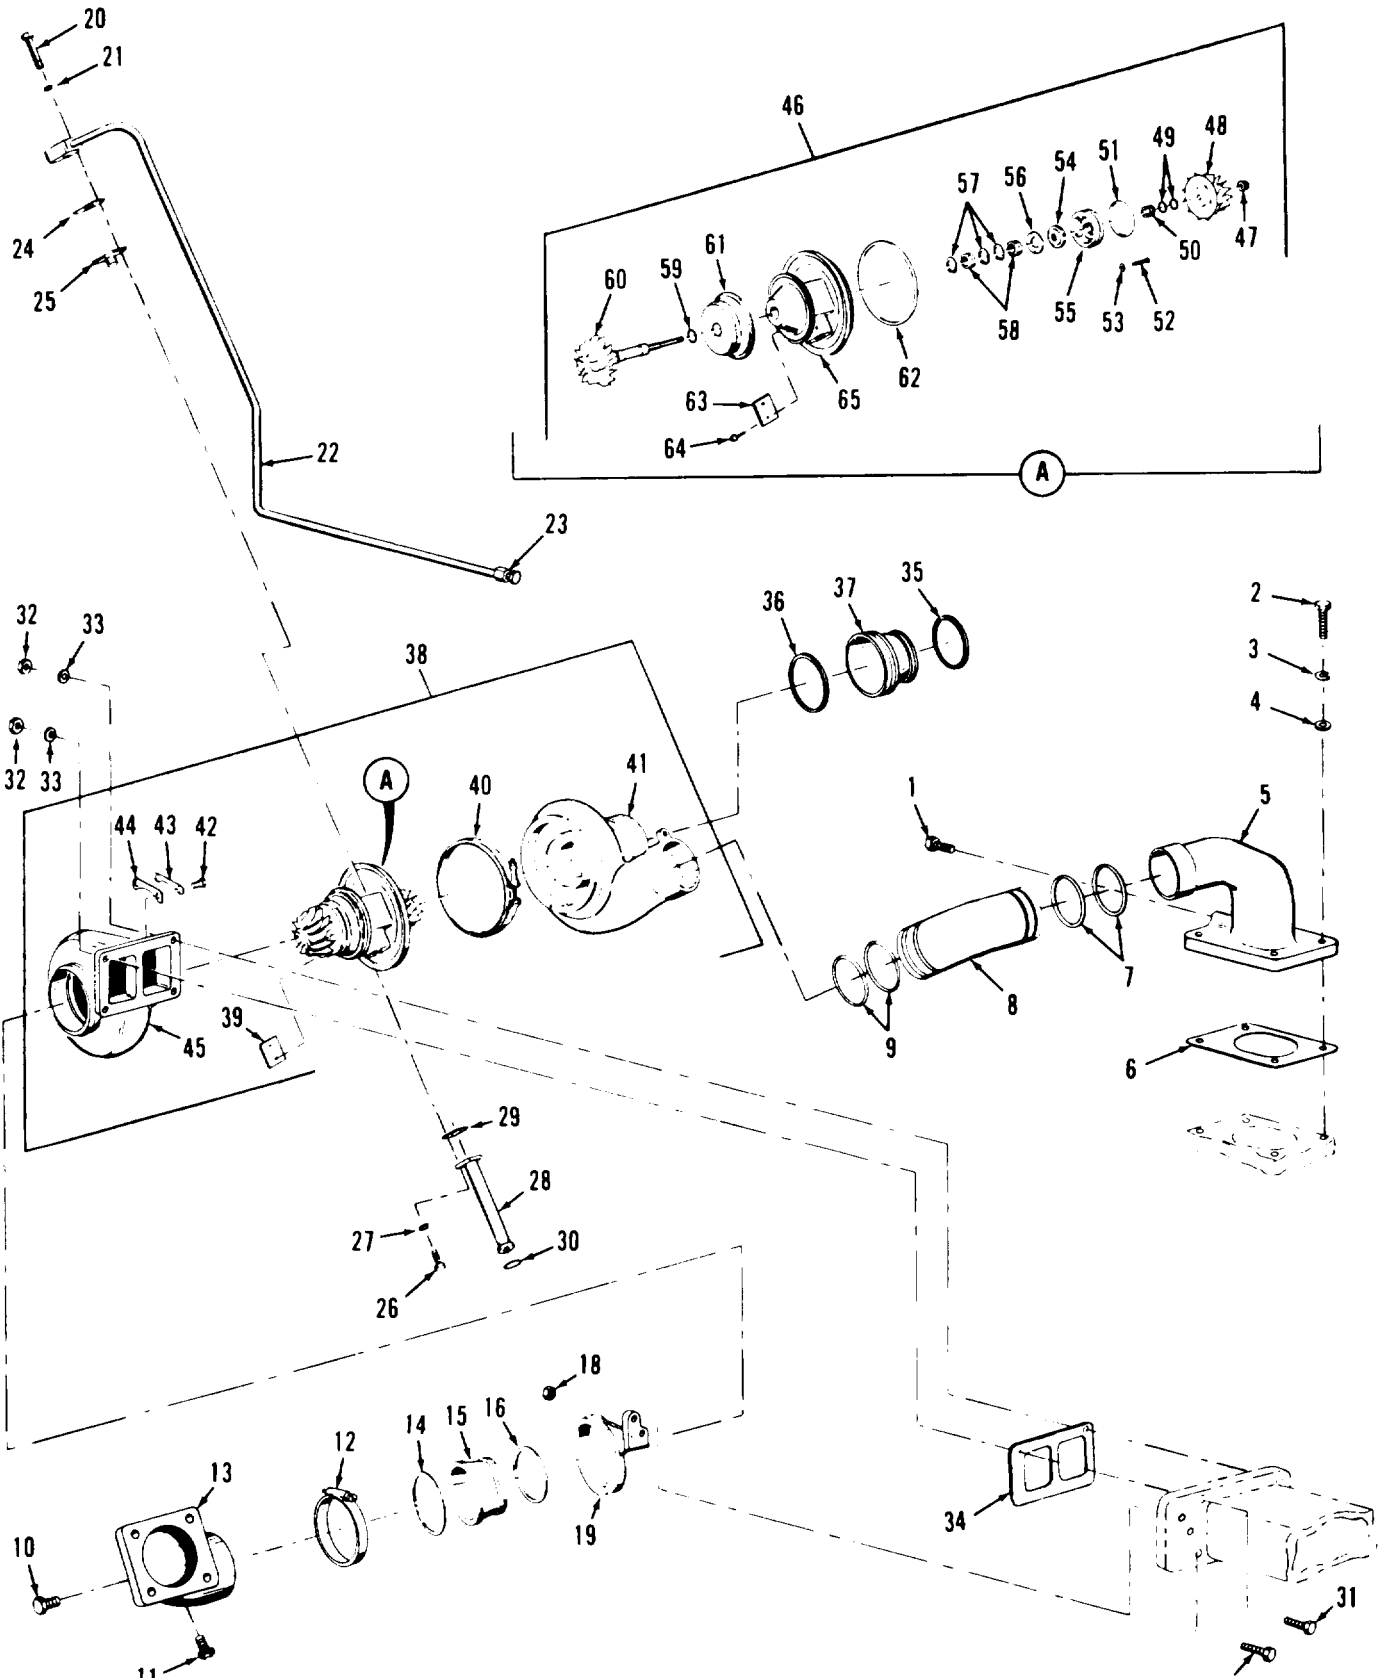

Figure 8-16. Turbocharger group, exploded view
Refer to figure 8-16 and disassemble turbocharger in the order of index numbers assigned. Pay particular attention to the following:
a. Clean all metal parts using an approved cleaning solvent. Dry parts thoroughly. Use a piece of wood to clean carbon and deposits from turbine housing (65, figure 8-16). Discard all seals and packings.
b. Inspect compressor and turbine wheels (48 and 60, figure 8-16) for cracks, wear, chips, or any other defect. Check carefully for any blade distortion. If defective, replace wheel. Do not attempt to straighten blades.
Legend to figure 8-16:
Refer to figure 8-16, and reassemble turbocharger group in the reverse order of index numbers assigned. Pay particular attention to the following: